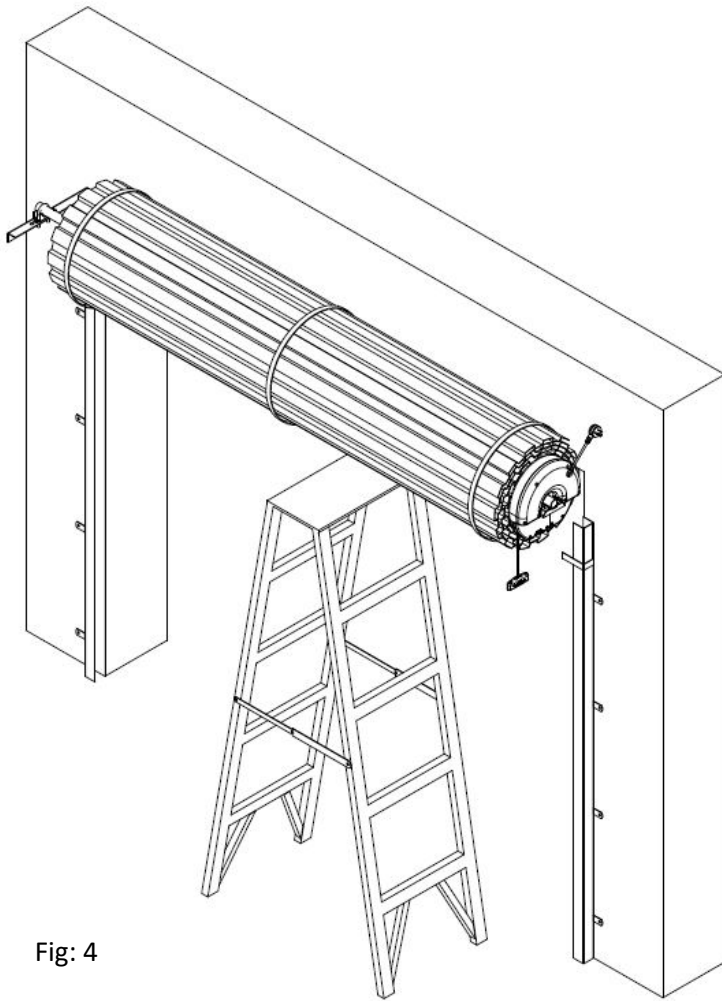

Fig: 4
h) Replace right hand side wall mount bracket (*Fig 4*)